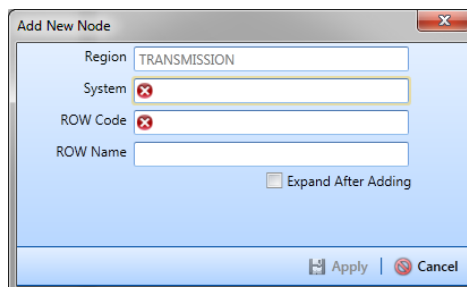

Figure 4-2. Add New Node
- 3 Click **+** **Add** to open the *Add New Node* dialog box (Figure 4-2, page 140).